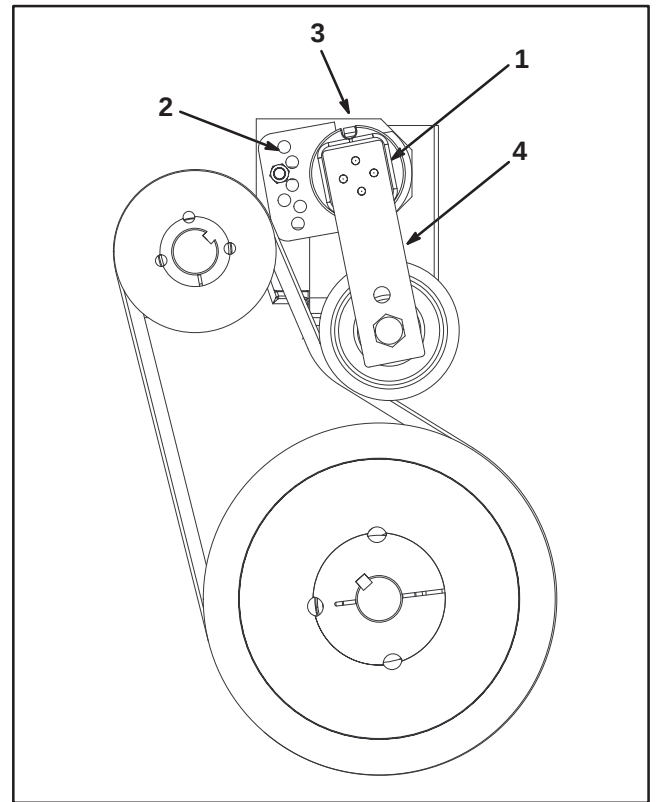

Figure 13
2. Remove capscrew and nut securing tensioner guide to blower frame (Fig. 13). Belt tension will be released when capscrew is removed.